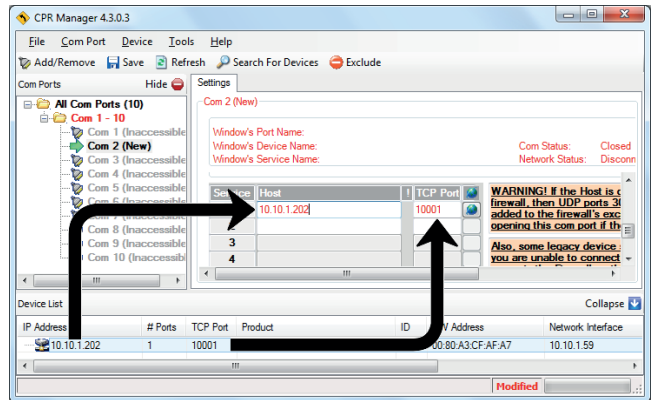

Fig. 86
8. In the settings of the respective virtual COM port, enter the relevant information about the device to be operated through the given virtual COM port in the "Service-Host-TCP Port" table. The required information is available in the "Device List". See Fig. 86.